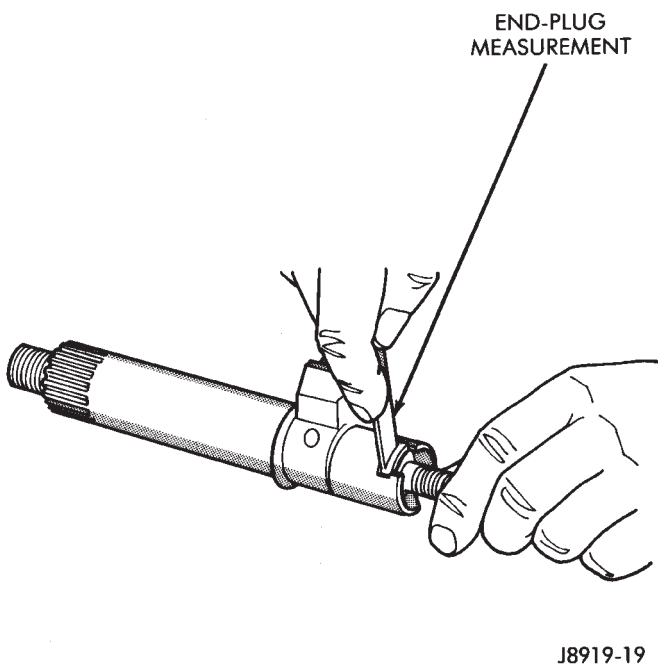

Fig. 9 Adjustment Screw End-Play Measurement
(2) Inspect the housing for cracks, porosity, damaged threads and scoring/distortion of the gasket surface area. Repair or replace as necessary.
(3) Inspect the pitman shaft contact surface and the teeth for wear, pitting, and other damage. Replace as necessary.
(4) Insert the pitman shaft in the steering gear housing shaft bore and inspect for excessive shaft or housing shaft bore wear. The shaft should have a smooth, bind-free fit with no visible side play when installed in the shaft bore.
(5) If the shaft fit is loose but it is not visibly worn, trial fit a replacement pitman shaft in the housing shaft bore. If the replacement shaft also has a loose fit, replace the housing. However, if the replacement pitman fits properly, replace the original pitman shaft.
(6) Measure the pitman shaft adjustment screw fit and end-play in the T-slot (Fig. 9). When installed, the adjustment screw must rotate freely and not bind in any position. Measure the end-play by inserting a feeler gauge between the screw head and the T-slot surface. **The end-play must not exceed 0.05 mm (0.002 in).** If end-play exceeds the specified limit, install a replacement shim to reduce the end-play.